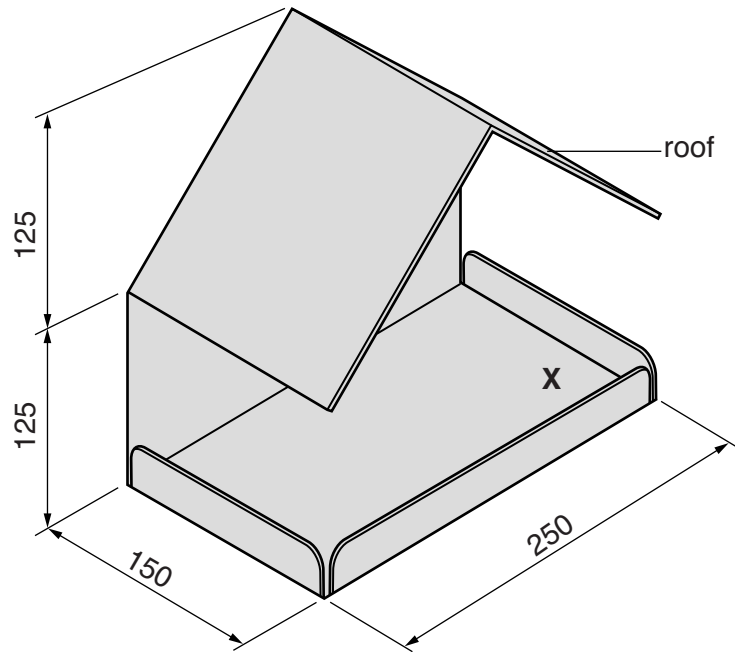

Fig. 15
13 Fig. 15 shows an incomplete design for a bird feeder made from 1.5 thick aluminium sheet.
- (d) A container to hold water is required. The position for the container is shown at **X** in Fig. 15.